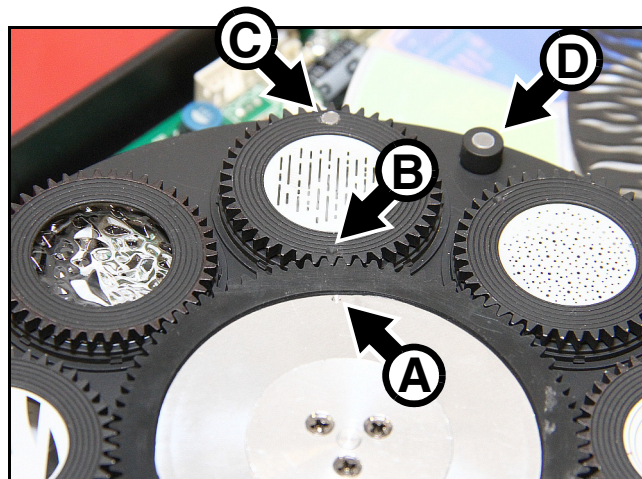

Figure 15: Goboholder orientation marks
8. See Figure 15. Note the position of the reference marks in the gobo drive wheel **A** and goboholder **B**. Note also the position of the goboholder positioning magnet **C** and gobo wheel positioning magnet **D**. Each time you remove a goboholder from the wheel, turn the drive wheel (twice if necessary) until the marks exactly line up.